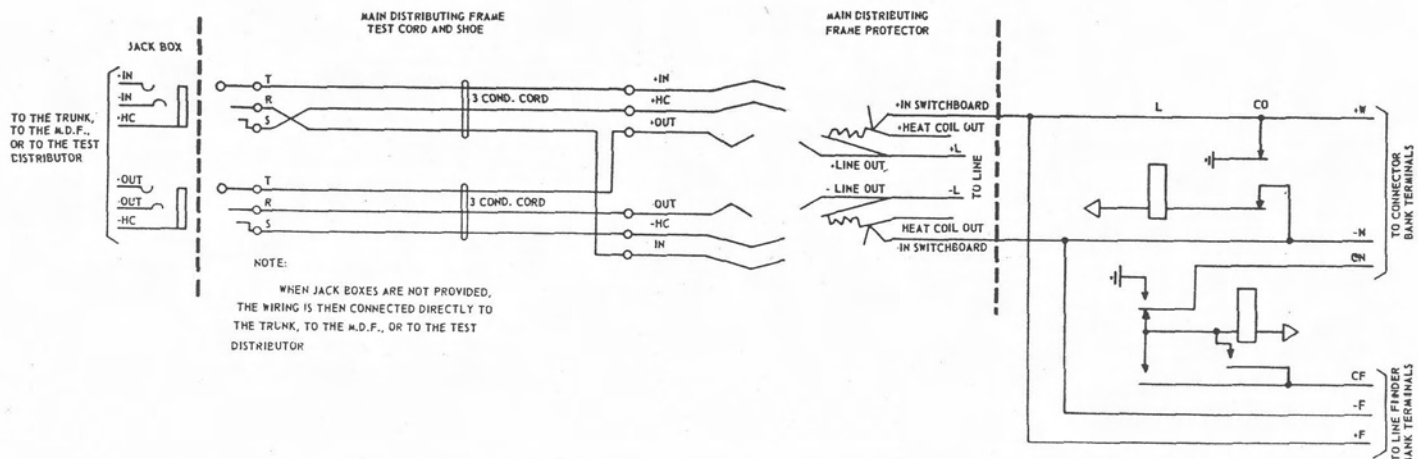

Figure 3. Connection of jackbox to Main Distributing Frame.
2.2.3.1 Trunks to Main Distributing Frame (figure 3). Ordinarily, it is desirable to have at least one trunk to the M.D.F., to establish connections which cannot be established via the test switch train, and for performing special or routine tests, without tying up the switch train. For example, test connections to trunk lines for making meter measurements, cannot be obtained through the test switch train, because the test connectors have access